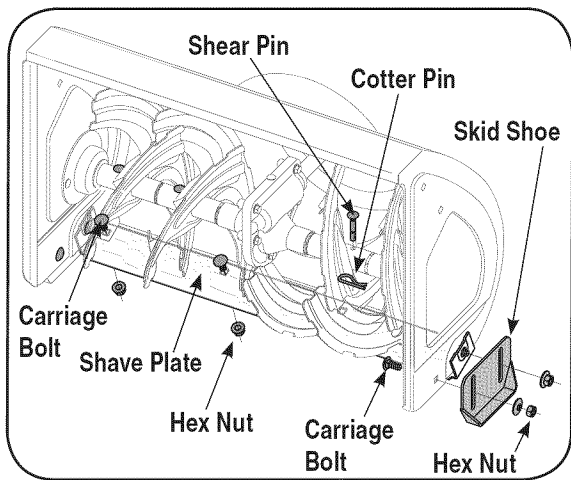

Figure 10
1. To replace, remove two carriage bolts and hex nuts securing each skid shoe to the auger housing. See Figure 10.
3. **To remove shave plate:** Remove both skid shoes and hardware including carriage bolts, and hex nuts which attach shave plate to the snow thrower housing. For location of shave plate, see Figure 10.
The augers are secured to the spiral shaft with four shear pins and cotter pins. If you hit a foreign object or ice jam, the snow thrower is designed so that the pins may shear. Refer to Figure 10.